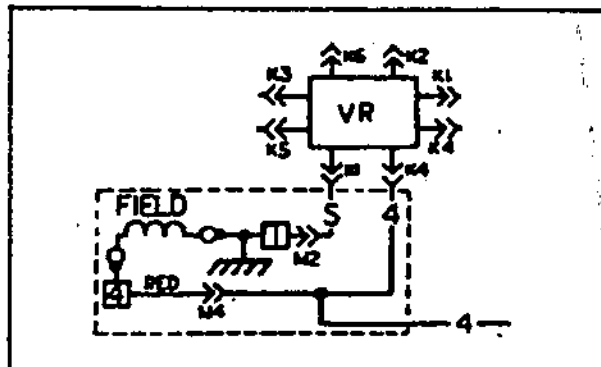

Figure 5.2-A. The Field Circuit
5.2.5- CHECK FIELD CIRCUIT (Figure 5.2-A)
5.2.6- CHECK ROTOR WINDINGS (Figure 5.2-A)